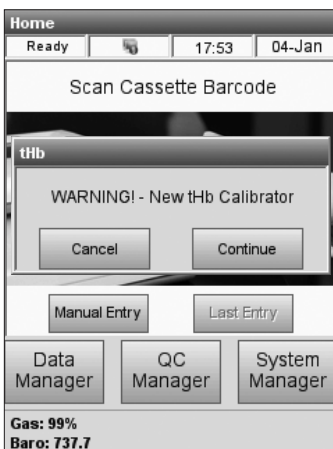

Fig. 2-16 New Calibrator
- A warning will be displayed the first time a new tHb Calibrator lot is used (Fig. 2-16). Press **<Continue>**.